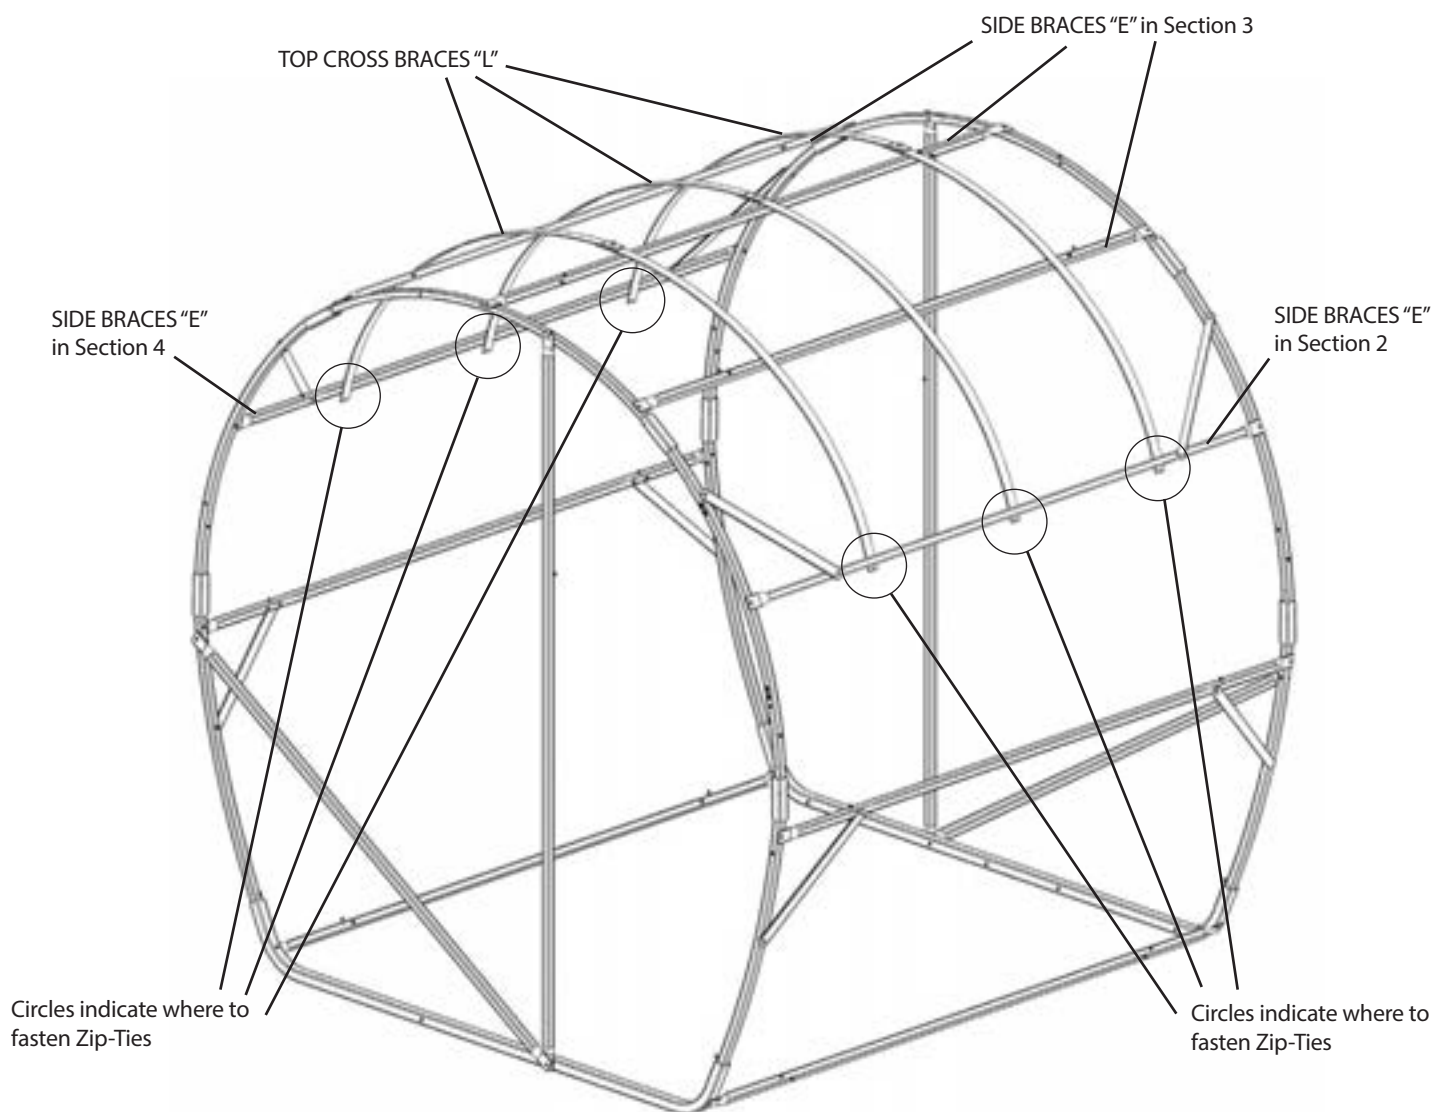

Figure 25.1
STEP 17: The (3) TOP CROSS BRACES "L" will be installed along the top part of your bale blind frame, on the outside of the (3) SIDE BRACES "E" in Section 3 of the frame, with their hole end resting under the (2) SIDE BRACES "E" in Sections 2 & 4, resulting in the frame illustrated in Figure 25.1. Fasten the (3) TOP CROSS BRACES "L" with (6) Zip-Ties to the (2) SIDE BRACES "E" in Sections 2 & 4.